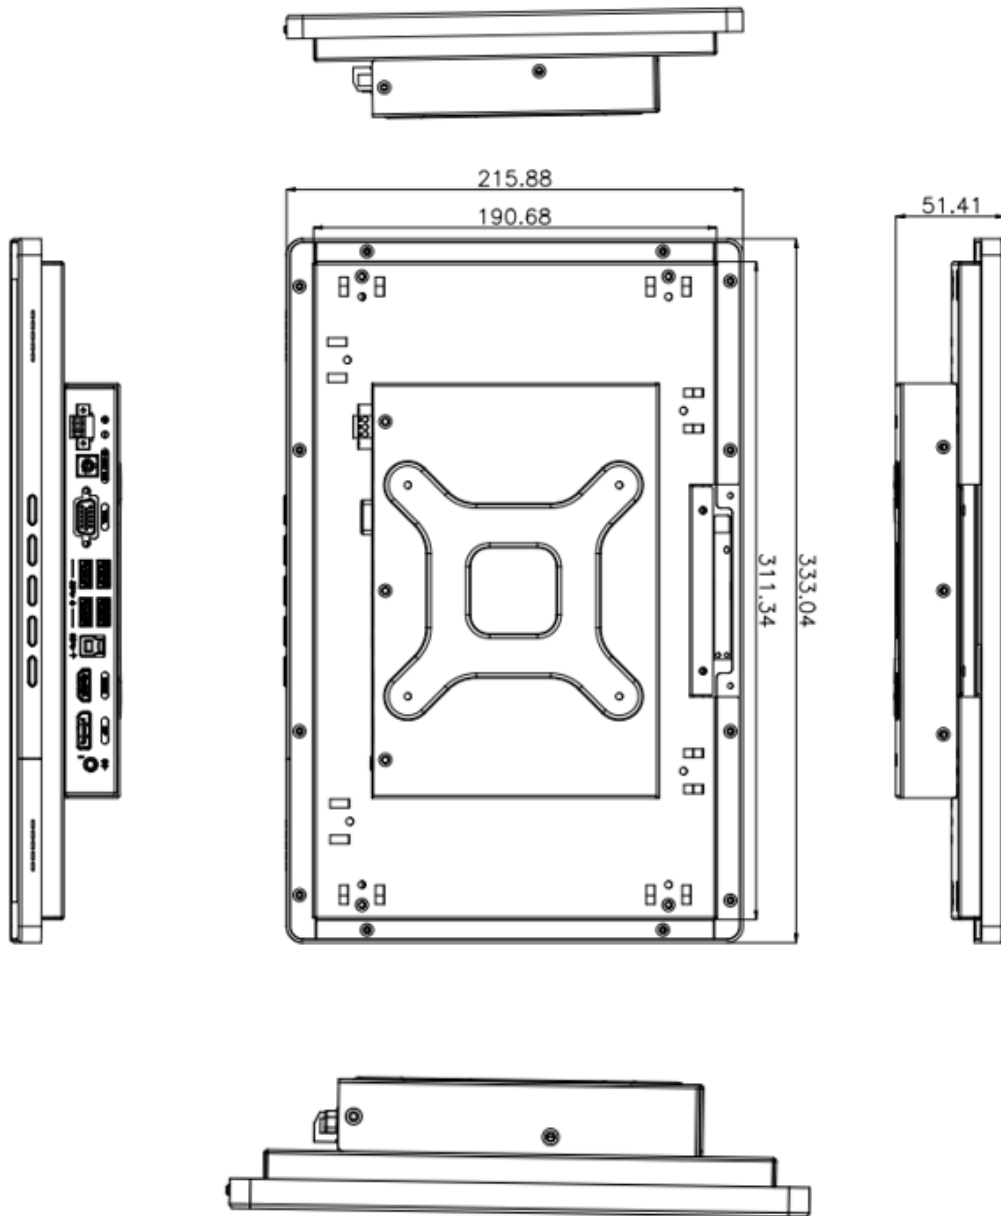

Figure 1-12: DM2-W133K(L) Physical Dimensions (Unit: mm)
1.9.6 DM2-W133K(L) Physical Dimensions
The physical dimensions of the DM2-W133K(L) are shown in the **Figure 1-12**.